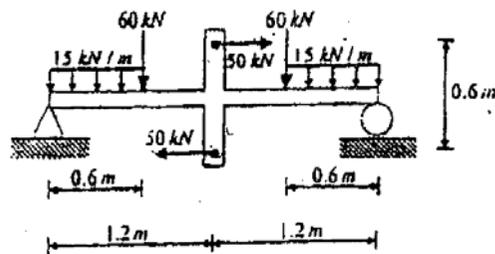

Fig. 1[b]
Q. [1] [a] Find out the degree of static indeterminacy of the beam shown in Fig. 1[a]. [4]